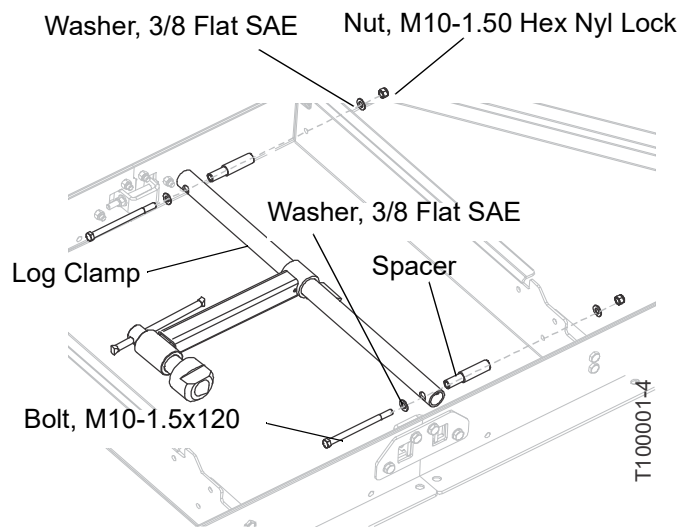

FIG. 3-4
- 4. Attach the log clamp in the middle of the bed. See FIG. 3-4.